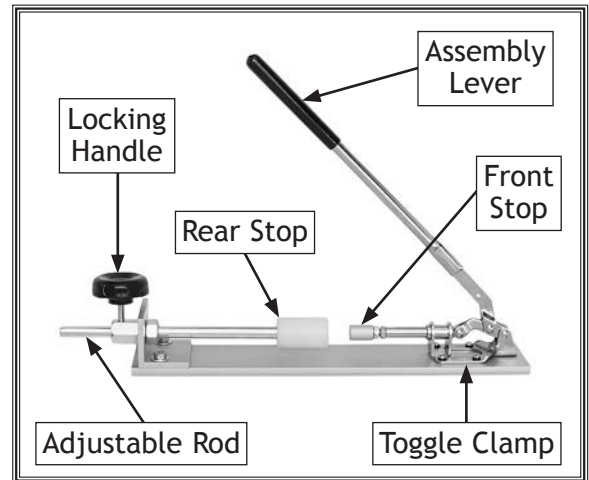

Figure 6. Pen press components.
2. Move assembly lever to vertical position to open toggle clamp (see **Figure 6**).